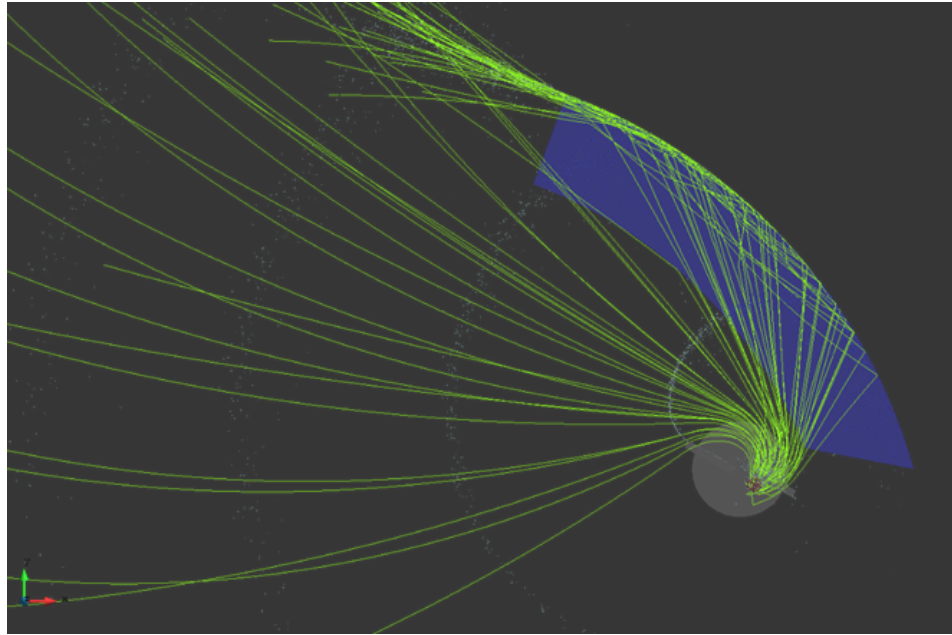

Figure 46. Individual trajectories of every single particle (right)
- **Particle trajectory:** traces of the fertilizer particles from their injection until they reach the ground (Figure 46). This can help in the design of rigid parts such as deflector, or simply to detect unexpected movements of the particles. In order to display the trajectories lines you can use the "Pick" button and select one fertilizer particle or a group of them. You can also delete one single trace ("Delete" button) or delete all of them ("Delete All" button).